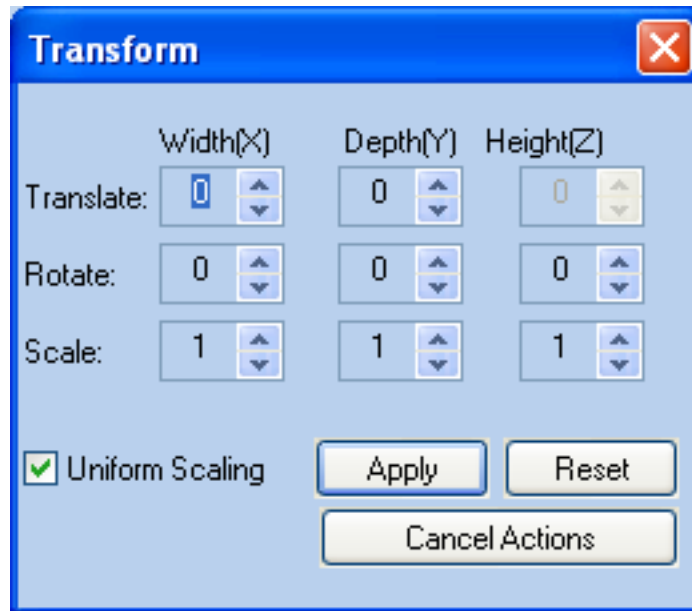

Figure 5-44 *Transform* dialog box
- Display the *Transform* dialog box (see Figure 5-44 on page 5-39).